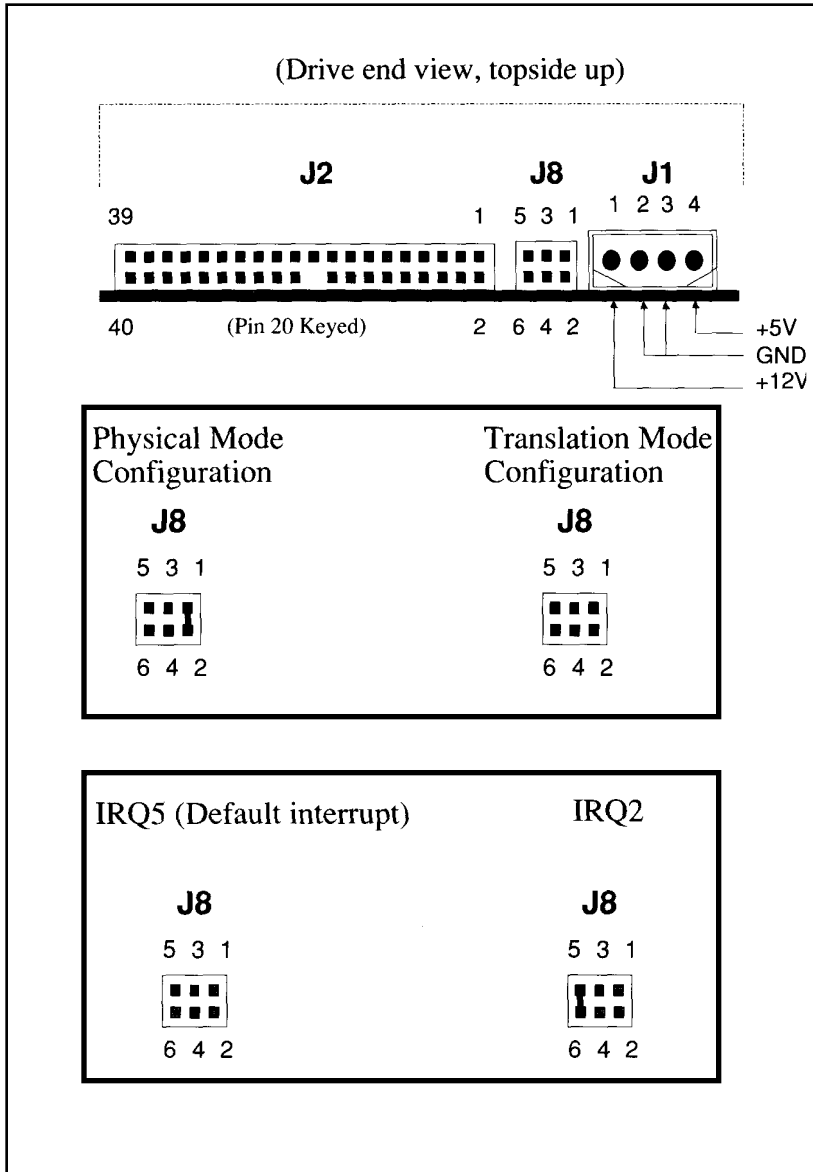

Figure 2-2. Jumper Configuration
Figure 2-1 is a bottom view of the intelligent drive. Locate the drive's connectors (J1, J2 and J8). Figure 2-2 illustrates and defines the connectors and default jumper settings.
- Verify that the jumper shunts on J8 are properly installed to match your configuration choices. (Refer to Figure 2-2.)
**Damage to the drive may occur if the interface cable is attached incorrectly. To prevent an incorrect connection, make certain you are using an interface cable which has been keyed at both the drive and host ends. Refer to Figure 2-2 which shows pin 20 as the key. (This pin has been removed from J2. The female connector on the interface cable will have a plug in position 20 to prevent incorrect connection.)**